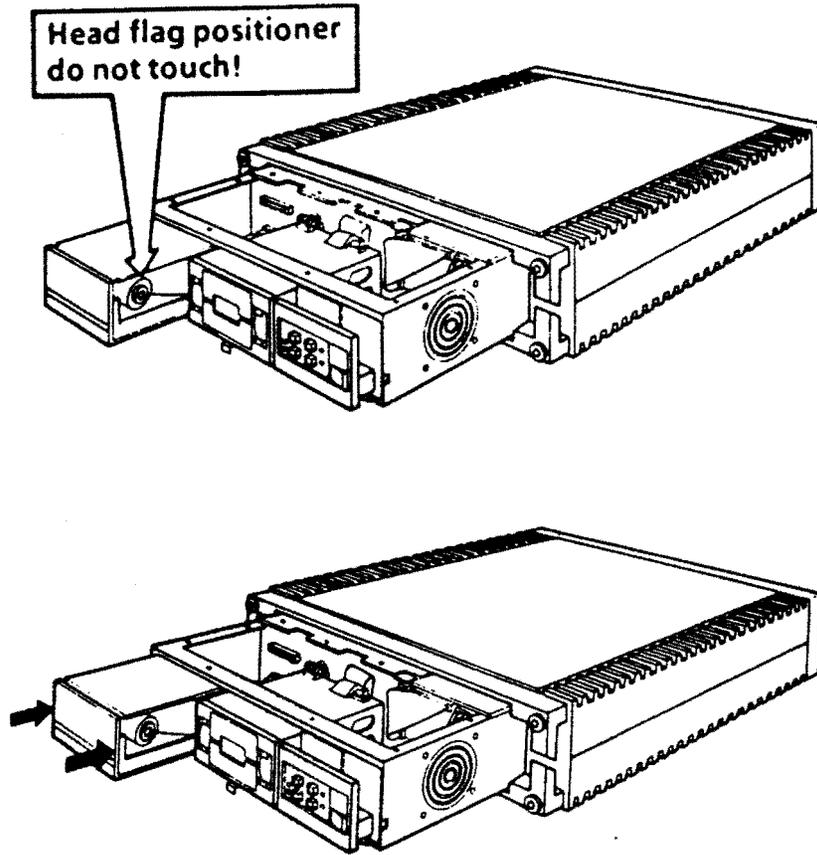

Figure 4-17: RD52 Insertion
- Slide the drive most of the way into the chassis, leaving enough room to reconnect the cables (Figure 4-17). Push on the front corners of the drive. Observe the head positioner flag caution.